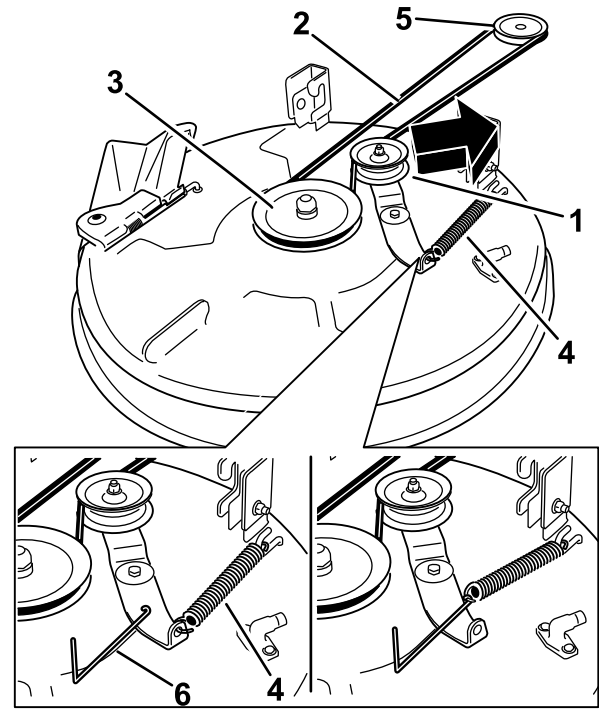
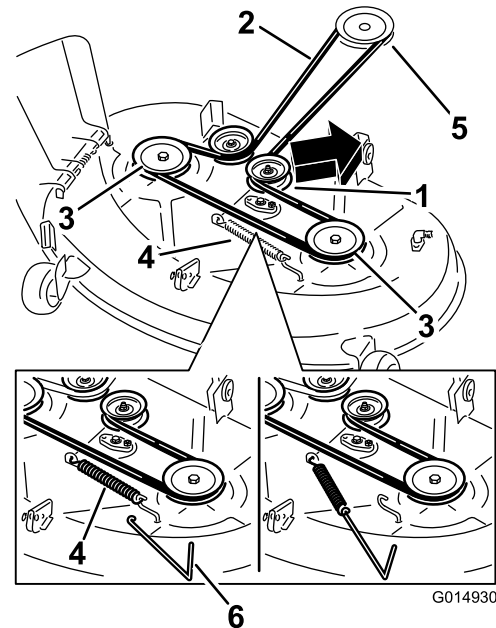

Figure 71
Figure 72
6. Using a spring-removal tool (Toro part no. 92-5771), remove the idler spring from the deck hook to remove tension on the idler pulley, and roll the belt off of the pulleys (Figure 71 and Figure 72).
7. Route the new belt around the engine pulley and mower pulleys (Figure 71 and Figure 72).
8. Using a spring-removal tool (Toro part no. 92-5771), install the idler spring over the deck hook and place tension on the idler pulley and the mower belt (Figure 71 and Figure 72).